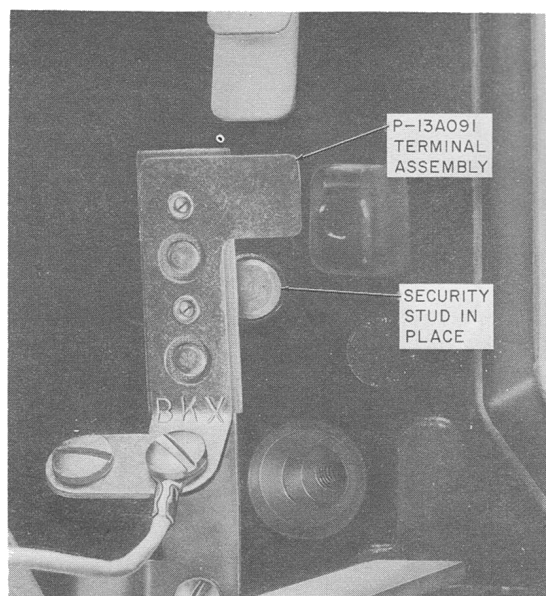

Fig. 20 — Terminal Assembly With Security Stud Installed
- If a security stud is present in the lower right security stud hole (Fig. 20), the appropriate bolt fastener [3.06(f)] may be used after removing the security stud.